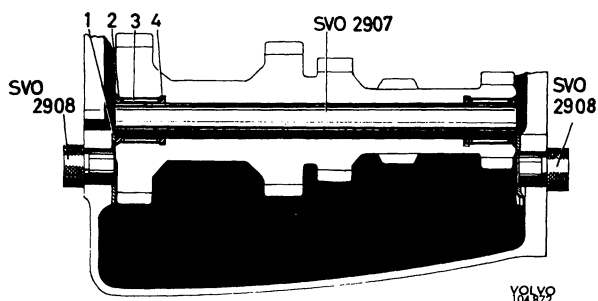

Fig. 4-21. Fitting idler gear
3. Fix the washers to the housing with grease and guide them up into position with the centering plugs SVO 2908, see Fig. 4-21. Lay the idler gear in the bottom of the housing.